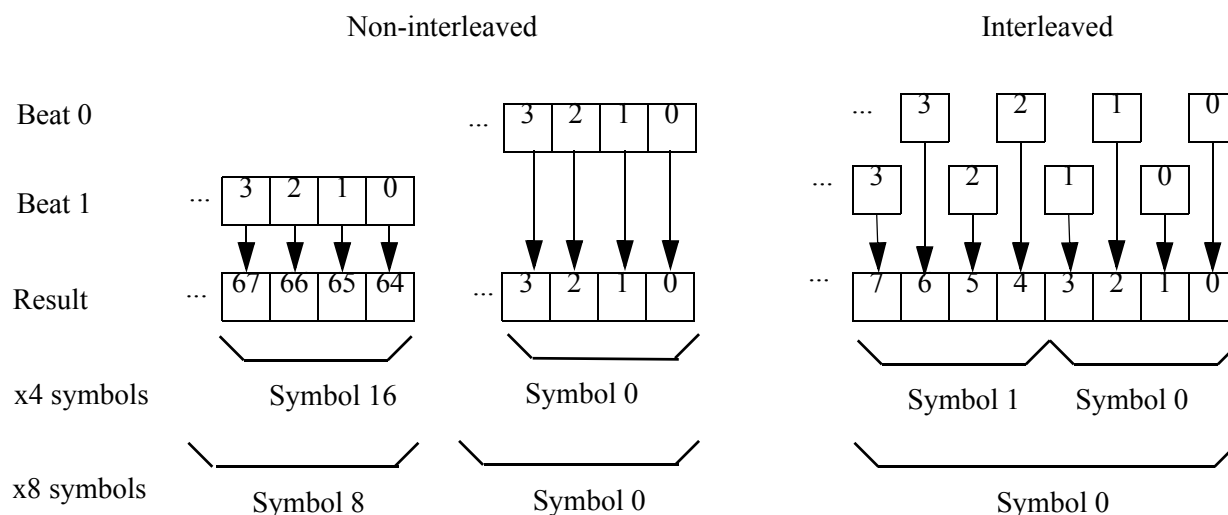

Figure 17: Example of Line Interleaving from x4 DRAM Using x4 and x8 ECC
- DRAM device width refers to the number of bits sourced simultaneously from a single memory chip. For example, a x4 device contributes 4-bits to the ECC word on each beat of data. In Figure 17, eighteen devices, representing one rank, contribute 72-bits on each beat.
- DCT data interleaving refers to the way bits from the two memory beats are organized to form an ECC word. When specified by `D18F2x110[DctDatIntLv]`, even and odd bits from the two 72-bit beats can be interleaved to create the 144-bit ECC word as shown in Figure 17.